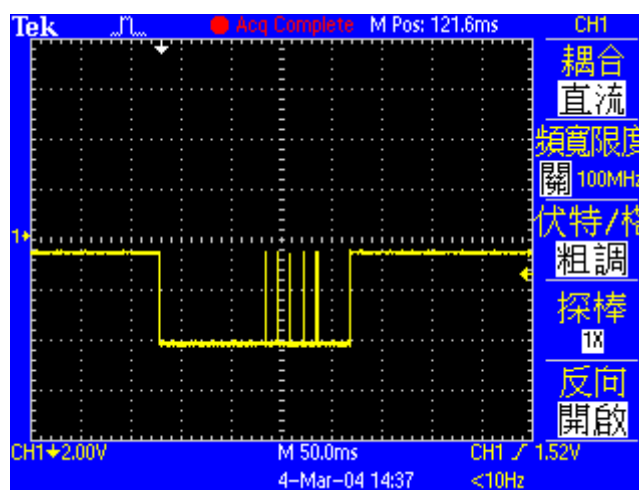
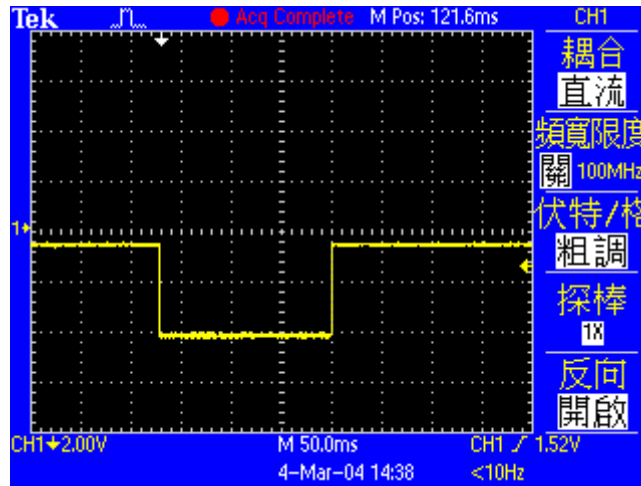

Figure5.6.2 In-position signal at "Debounce time" being 0 ms
Figure5.6.3 In-position signal at “Debounce time” being 3 ms
- (1) After fixing "Target radius" and setting "Debounce time" to 0 ms, let the motor move a distance and observe the "In-Position" signal on the oscilloscope, as shown in figure 5.6.2. When "In-Position" is achieved, the signal is a high level; while when it is not achieved, the signal is a low level. It can be observed from figure 5.6.2, when the motor moves to near the target position, there are six protruding pulses (the latter two are closer). Observing the high-level duration of each protruding pulse, the first one is about 1.5 ms, the second one is about 1.4 ms, the third one is about 1.4 ms, the fourth one is about 1.3 ms, and the fifth one and the sixth one are about 1 ms.
(2) Observing in figure 5.6.2, the widest protruding pulse is 1.5 ms. So, “Debounce time” can be set to larger than this value. After considering the safety factor, set “Debounce time” to 3 ms. Let the motor move a distance, the “In-Position” signal is shown in figure 5.6.3. The instability of “In-Position” signal is improved.
Click  to appear the window of application center, as shown in figure 5.6.2. The first tab is the homing configuration page of “Homing”.
- (1) Homing mode for incremental encoder
This method is only applicable to homing modes (1) and (2) described above. When “Home Offset” is set to a nonzero value, the home position found in the original condition is offset by a distance. This new position is taken as the coordinate origin, and the motor moves to this origin position. For example, if the left and right conditions are not “None”, the drive will take the position, which is the home position found in the original condition offset by a distance, as the new home position, as shown in figure 5.6.3. If “Home Offset” is positive, the coordinated origin is at the right side of home position found in the original condition; while if it is negative, the coordinated origin is at the left side of home position found in the original condition.
Faster speed	Search at the faster homing speed. Set it in the “Faster Speed” field given in figure 5.6.2.